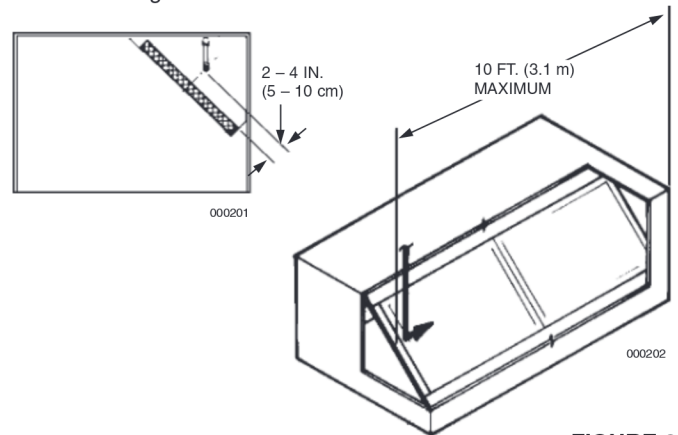

FIGURE 9
- One 1N nozzle will protect 10 linear feet (3.1 m) of single filter bank plenum. The nozzle(s) must be mounted in the plenum, 2 to 4 in. (5 to 10 cm) from the face of the filter, centered between the filter height dimension, and aimed down the length. The nozzle must be positioned 0-6 in. (0-15 cm) from the end of the hood to the tip of the nozzle. See Figure 9.